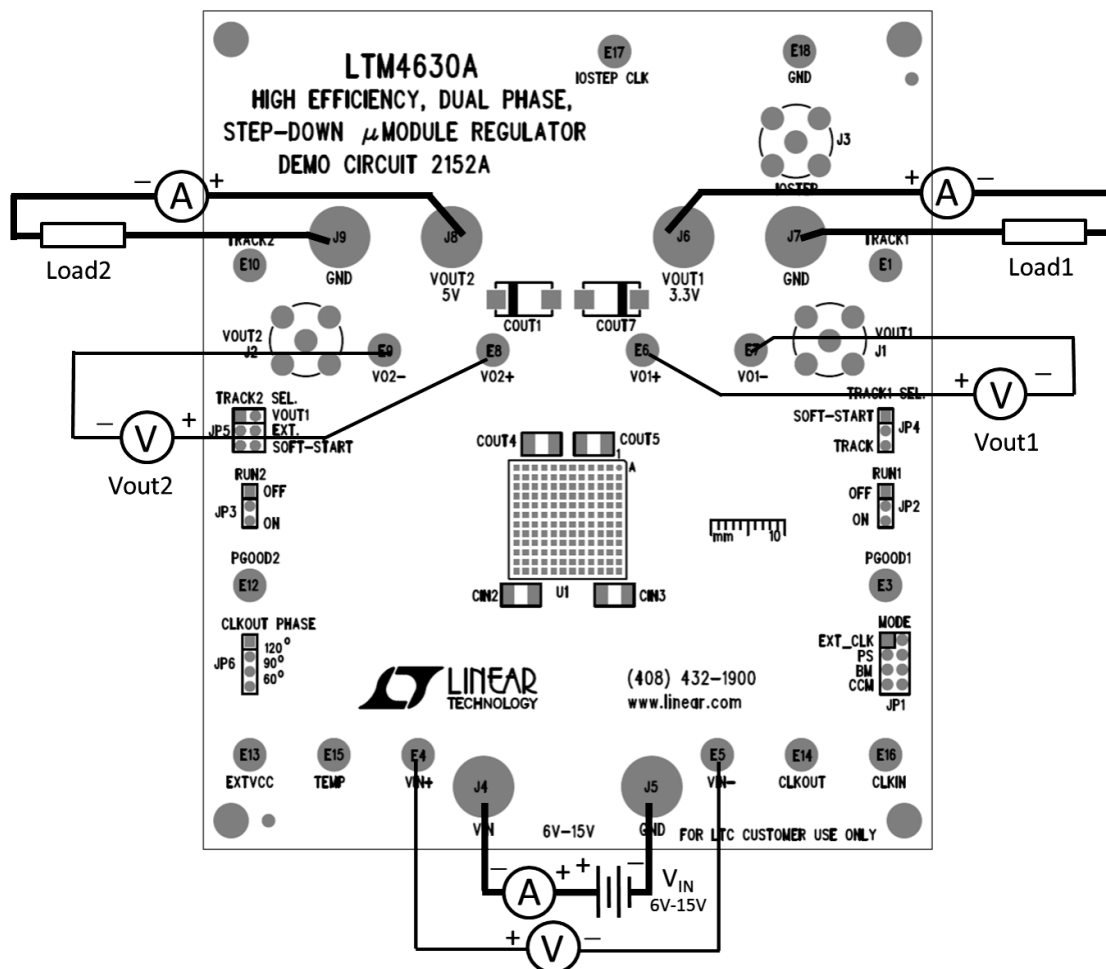

Figure 1. Test Setup of DC2152A
Demonstration circuit DC2152A is easy to set up to evaluate the performance of the LTM4630AEV. Please refer to Figure 1 for proper measurement setup and follow the procedure below:
2. With power off, connect the input power supply, load and meters as shown in Figure 1. Preset the load to 0A and V_{IN} supply to 12V.